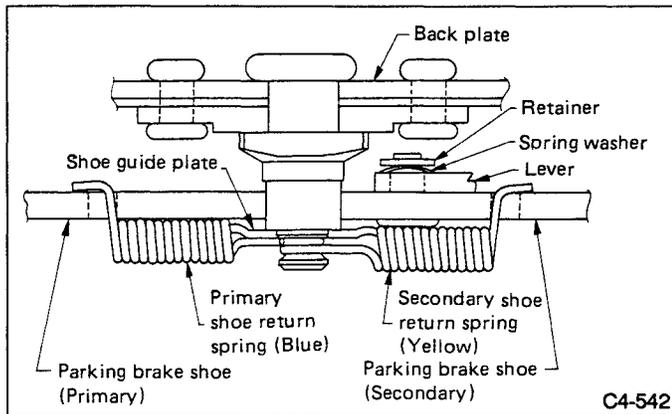

Fig. 85
- f. Ensure that shoe return spring is installed as shown in Fig. 85.